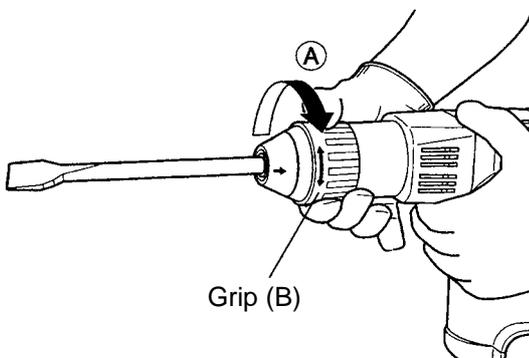
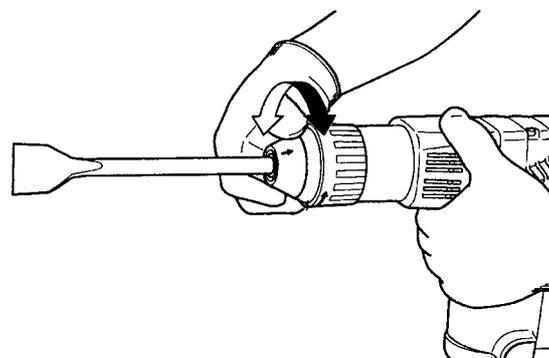

Fig. 9
Fig. 10
The tool can be turned every 30 degrees and can be fixed at the position of 12 steps. Grip (B) is turned 60 degrees in (A) direction (Fig. 9), the tool swivel angle can be changed freely to any desired position. (Fig. 10)